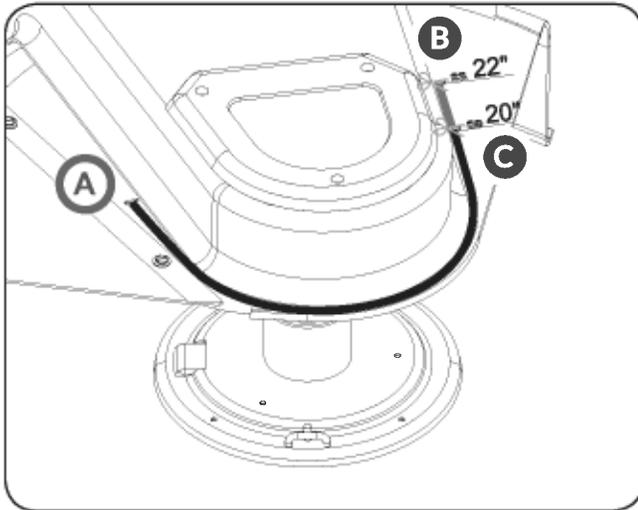

Figure 15a
3. Use the built-in length gauge, located on the shield to make sure the new trimmer line is cut at the correct length. Place one end of the trimmer line at location "A" and bend it along the raised portion of the shield. Cut the line at location "B" (22") or location "C" (20"). (See **Figure 15a**)